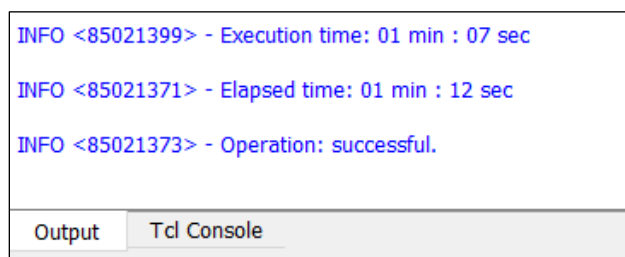

Figure 6.9. Programmer Output Window
7. When the FPGA programming is successful, the output console displays the *Operation: successful* message as shown in Figure 6.9.